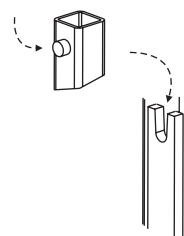

Figure 17-4
10. Attach platform by placing platform's upright pins into u-shaped bracket on tower. [Figure 17-4]